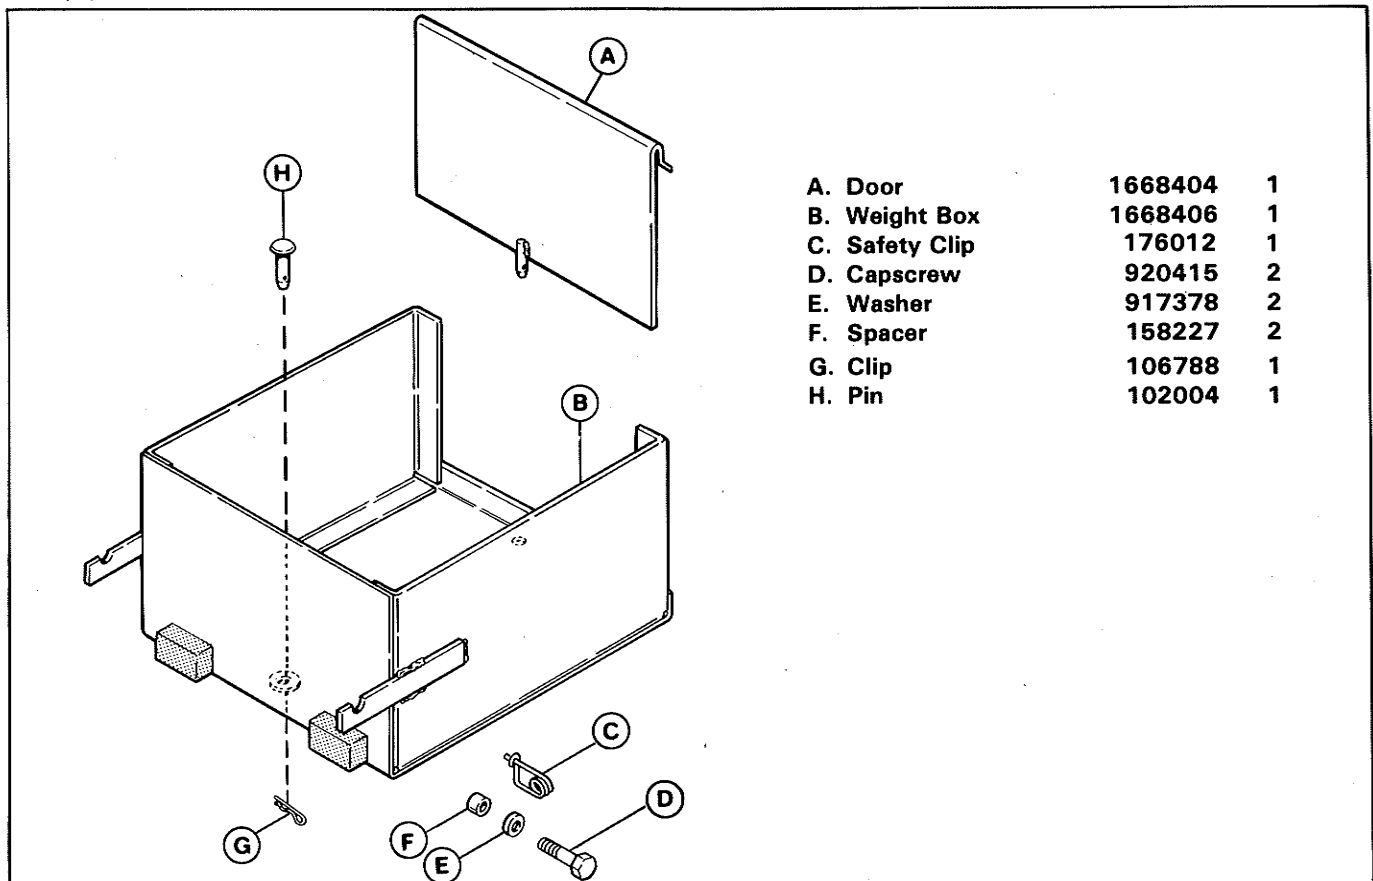

Figure 1. Weight Box Kit
This kit contains the parts shown in figure 1.
4. Insert the pin (H, figure 1) from top thru hole in weight box and drawbar. Secure pin with the clip (G).
5. Slide the door (A, figure 1) down into position inserting pin on bottom of door thru hole in weight box. Install the safety clip (C) in the pin to hold door in place.